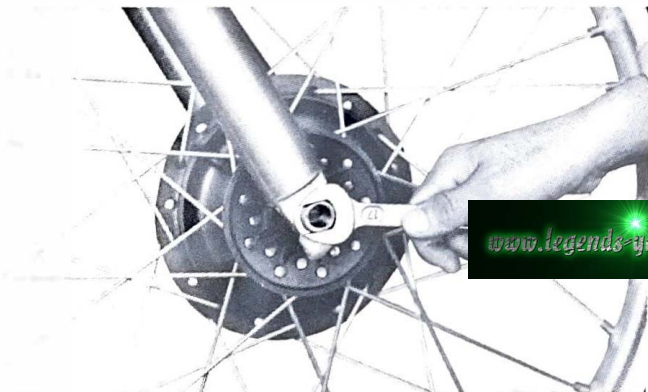

Fig. 17
- (3) Tighten the wheel shaft with specified torque. (Fig. 17)